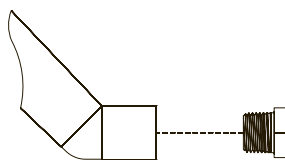

Figure 36
3. Remove LP burner orifices marked 1.25 mm for R3B. Remove LP burner orifice marked 1.3 mm for R3. **See Figure 36.**